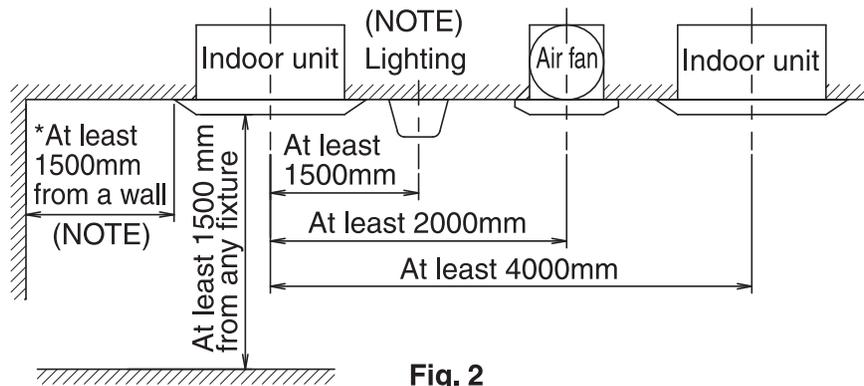

Fig. 2
- Any vents, light fixtures, or other appliances which may disturb the airflow might cause the top side to become dirty if located too nearby, so follow **Fig. 2** when installing.